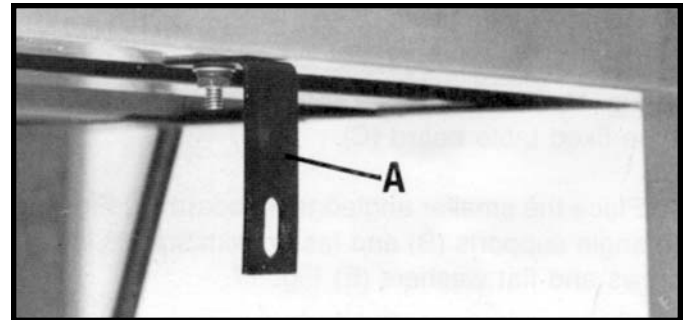

Fig. 13
1. Assemble bracket (A) to the bottom of the right side of saw base, as shown in Fig. 13. Place a 1/4" flat washer onto a 1/4-20x3/4" hex head screw and insert screw through hole in the bottom of the right side of the saw base. Place the bracket (A) Fig. 13 onto the screw, place a 1/4" lock washer onto the screw and thread a 1/4-20 hex nut onto screw and tighten securely.